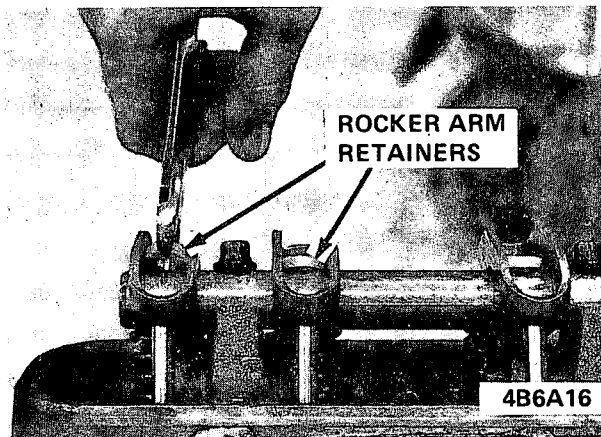

Figure 6A-67 - Removing Nylon Retainer
3. Remove nylon arm retainers by prying them out using a pair of channel locks. See Figure 6A-67.